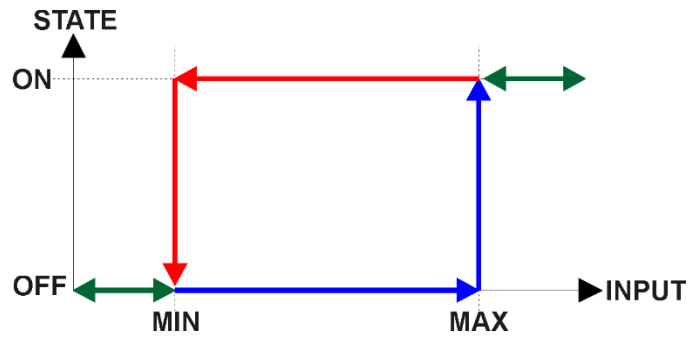

Figure 7 – Analog Input Reads as Digital
Should a different linear relationship between what is measured versus what is sent to the CANopen® bus be desired, objects 6132h, 7121h and 7123h can be changed. The linear relationship profile is shown in Figure 7 below. Should a non-linear response be desired, the lookup table function block can be used instead, as described in Section 2.3.
There is another type of 'digital' input that can be selected when 6112h is set to 20 = Analog On/Off. However, in this case, the input is still configured as an analog input, and therefore the objects from the Analog Input (AI) block are applied instead of those discussed above. Here, objects 2020h, 2030h and 6030h are ignored, and 6000h is written as per the logic shown in Figure 7. In this case, the MIN parameter is set by object 7120h **AI Scaling 1 FV**, and the MAX is set by 7122h **AI Scaling 2 FV**. For all other operating modes, object 6000h will always be zero.